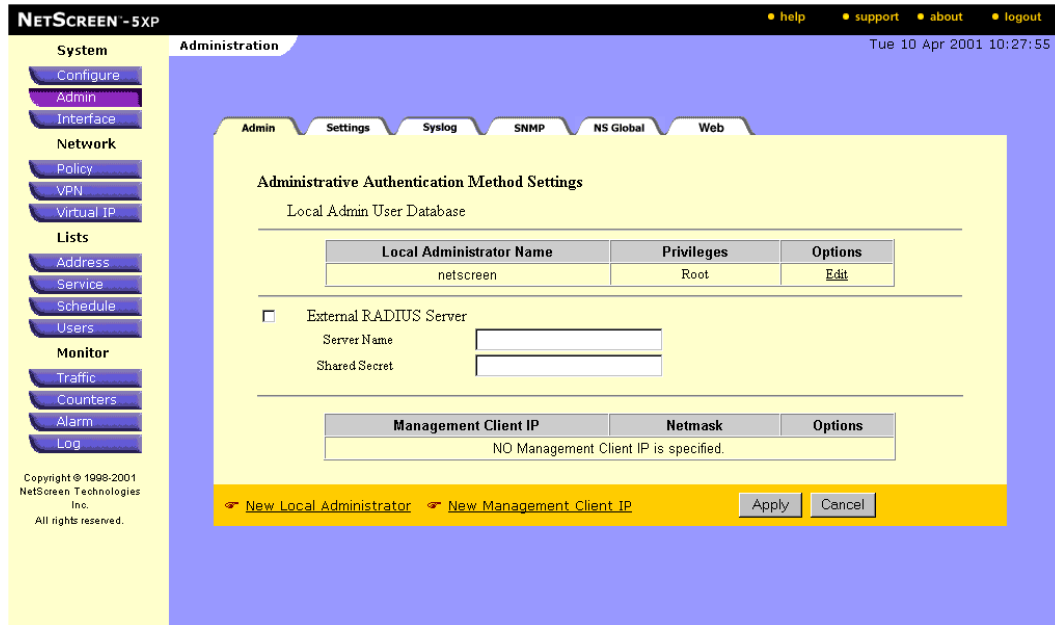

Figure 3-10 The Administration Settings Page
1. Select the **Admin** button in the menu column to view the **Admin** page, as shown in Figure 3-10.